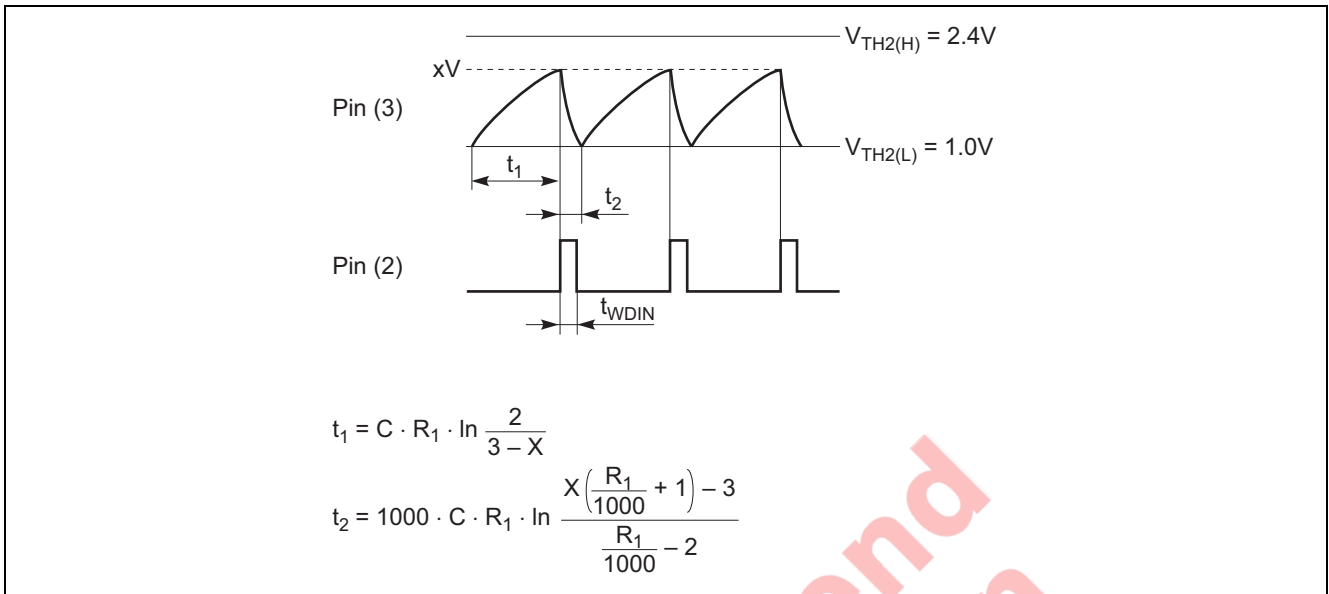

Figure 3
When input of (2) WD is normal, TC waveform (3) is as shown in figure 3.